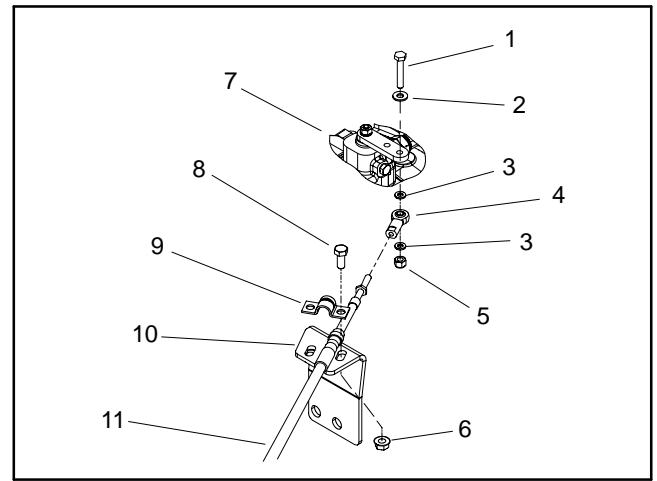

Figure 49
4. Remove traction cable ball joint from control plate on piston pump by removing lock nut, cap screw and three (3) flat washers from control plate (Fig. 49).
5. Align spline teeth and slide piston pump input shaft into engine coupling. Support pump to prevent it from shifting while installing two (2) cap screws, lock washers and flat washers to secure pump to engine bell housing.
6. Secure traction cable to control plate with cap screw, three (3) washers and lock nut (Fig. 49).